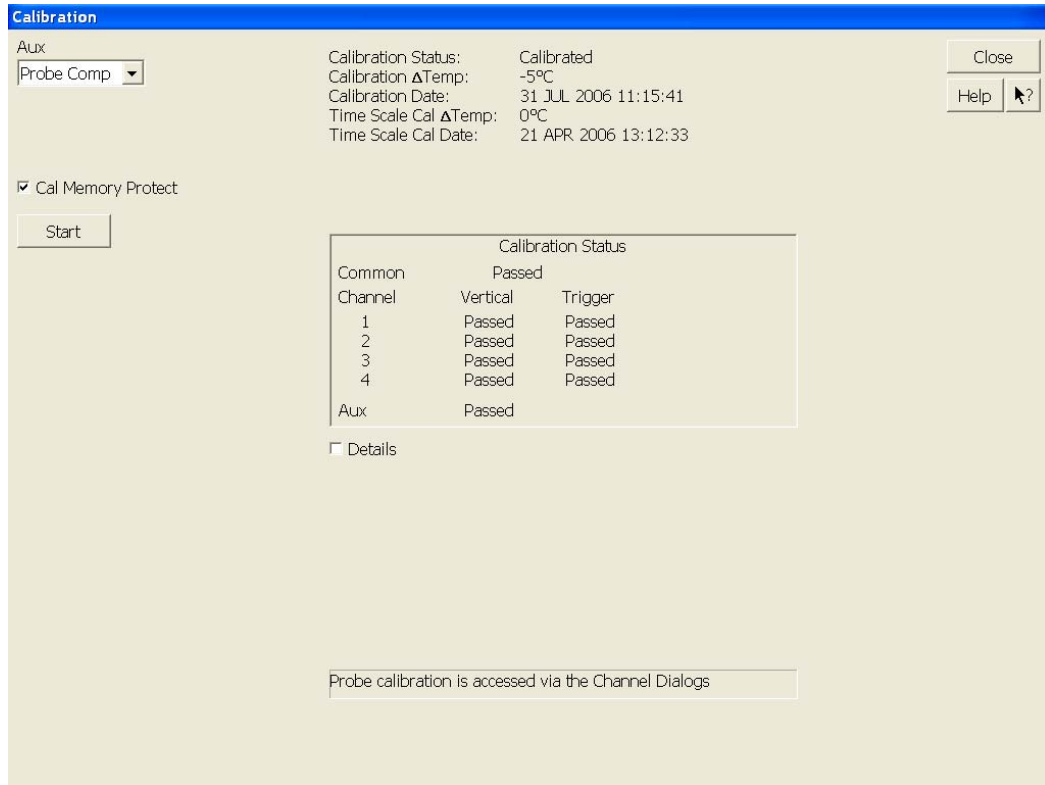

Figure 89 Oscilloscope Calibration Window
- 4 Referring to Figure 89 below, perform the following steps to start the calibration: